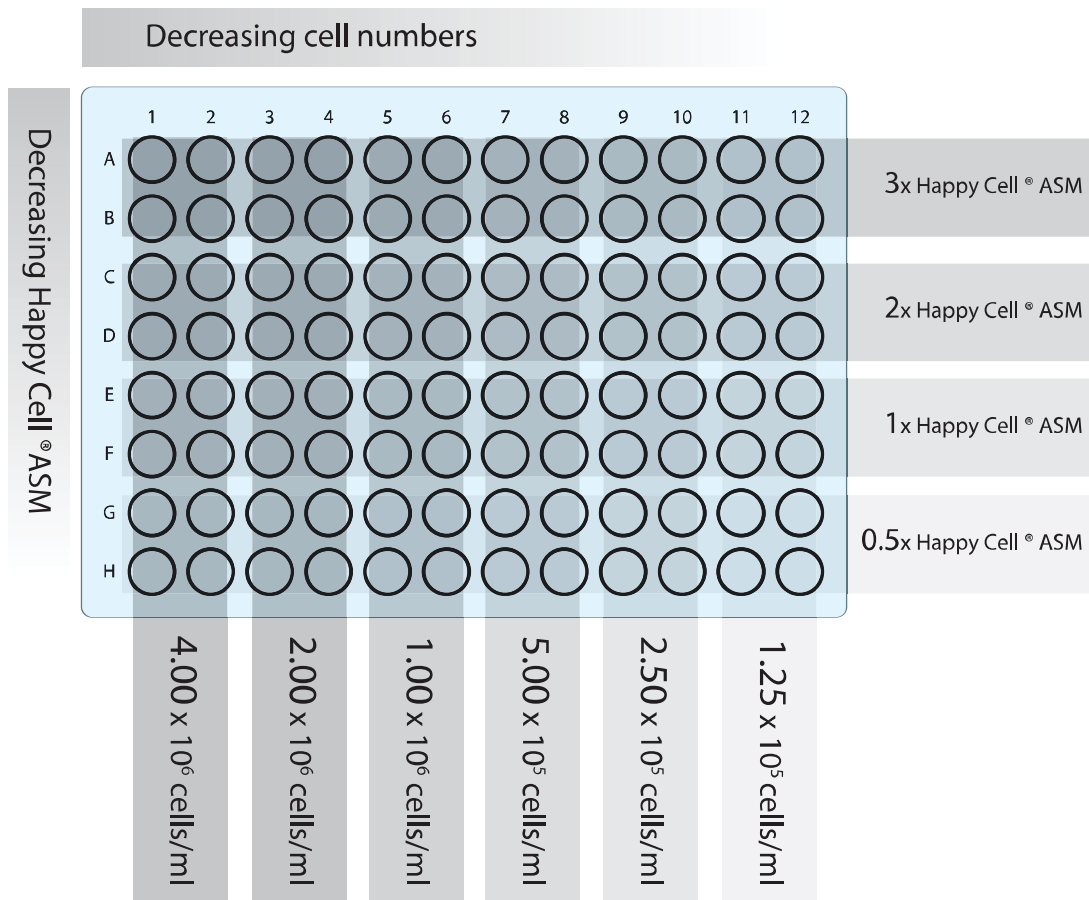

Figure 2. Schematic of a suggested strategy for optimising cell culture using Happy Cell[®] ASM.
- Plate cultures (100µl/well) as shown in Figure 2 below.